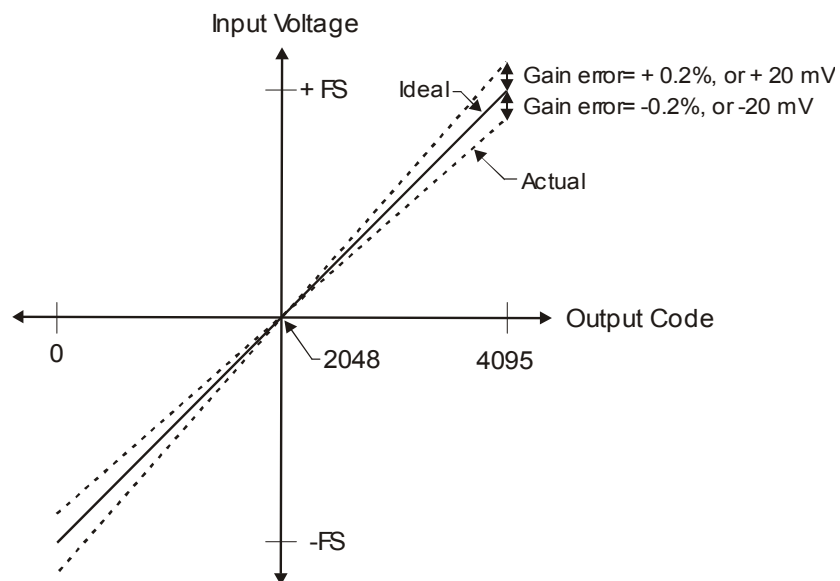

Figure 13. ADC Transfer function with gain error
Gain error is a change in the slope of the transfer function from the ideal, and is typically expressed as a percentage of full-scale. Figure 13 shows the RedLab 1208LS transfer function with gain error. Gain error is easily converted to voltage by multiplying the full-scale (FS) input by the error.
The accuracy plots in Figure 13 are drawn for clarity and are not drawn to scale.